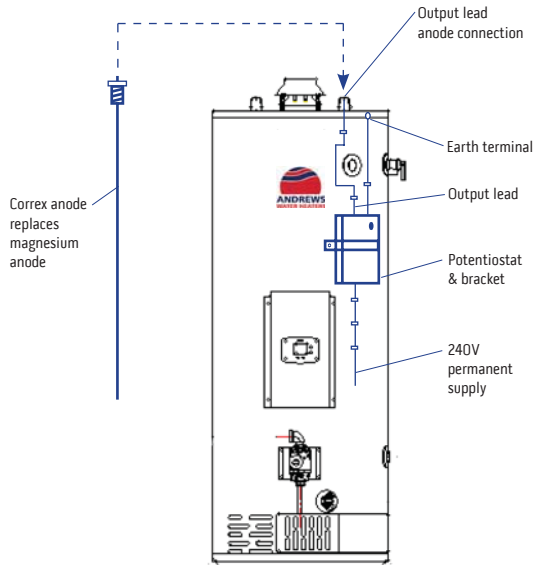
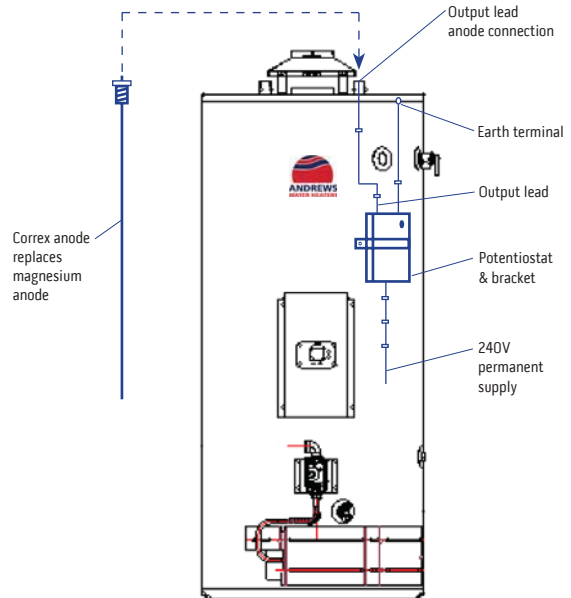

FIG 1
FIG 2
Step 1 To install the Correx kit (refer to Fig1 & Fig2 diagrams)